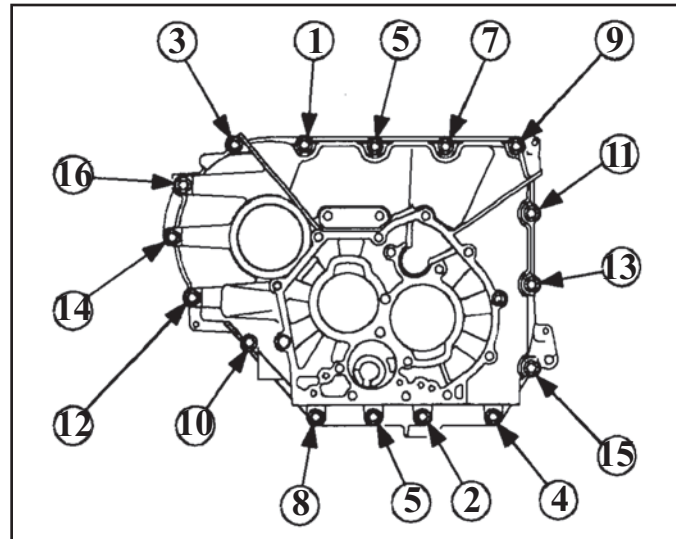

Figure 195
15. Install the case to converter housing bolts. Torque the bolts to the following specifications and in the numerical sequence shown in Figure 195.